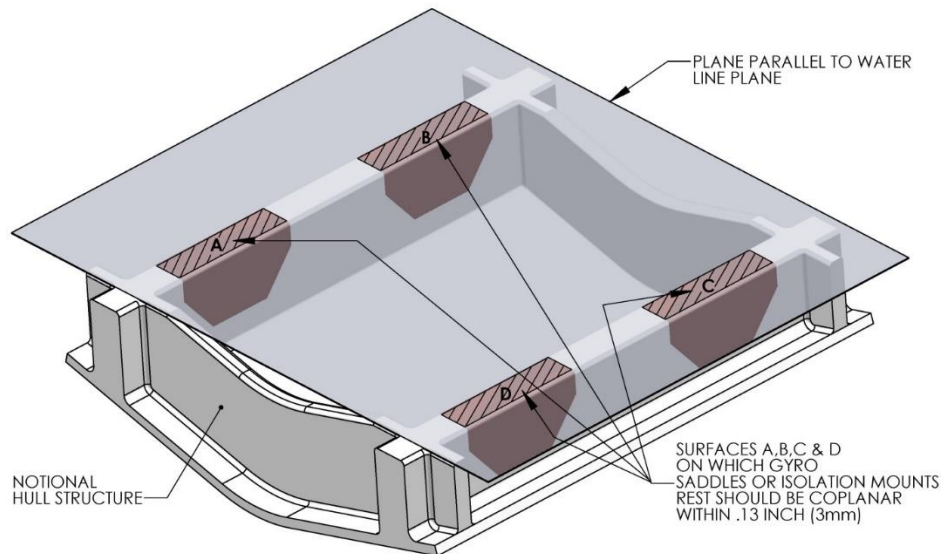

FIGURE 11 – COPLANAR PROPERTIES OF FOUNDATION
- 3) Raise fixture clear of foundation. Check all four mounting areas are co-planar to within 1/8" (3 mm) to each other, as well as parallel to the water line plane, as shown in Fig 11.